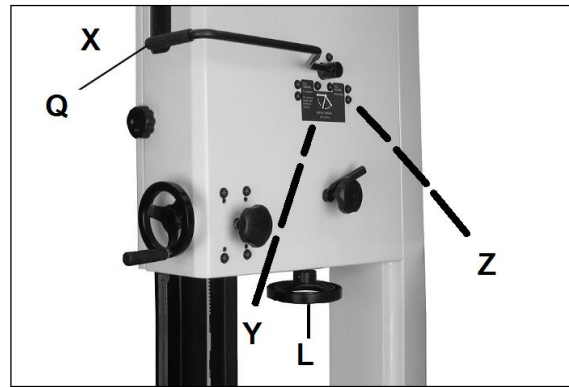

Fig 37
Blade tension is set with the blade tension hand wheel (L, Fig 37).
To operate the machine, place the quick blade tension lever (Q, Fig 37) in the Full-Tension position (X).